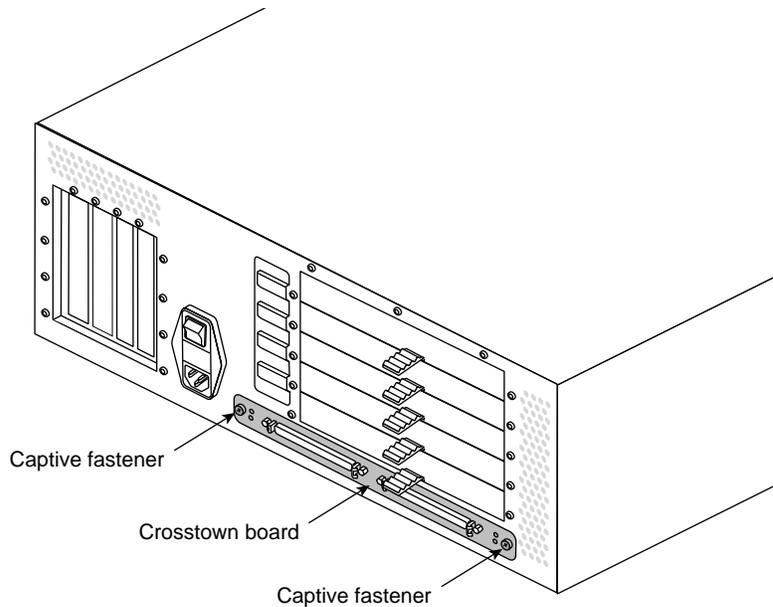

Figure 5-41 Location of the Crosstown Board and Captive Fasteners
2. Undo the two captive fasteners on the Ccrosstown board, at the rear of the chassis. See Figure 5-41.